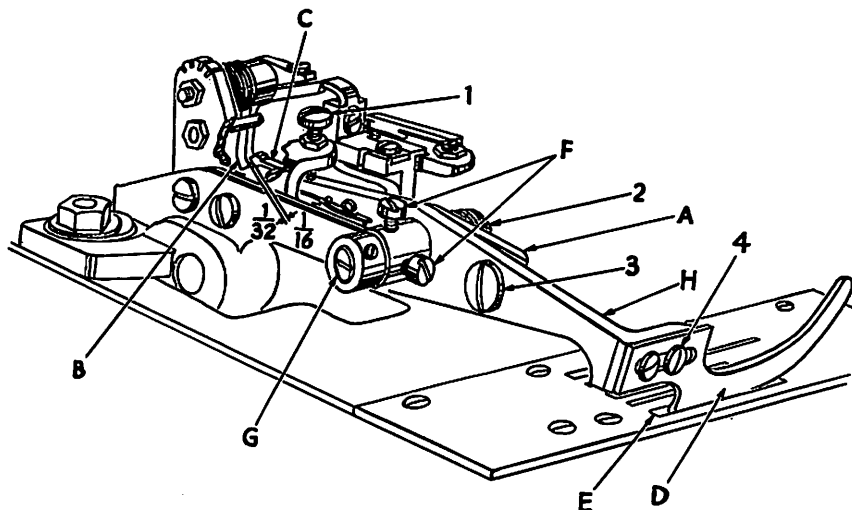

Fig. 7
The automatic tape cutting mechanism has four main adjustments. Adjustment No. 1 (Fig. 7) regulates the stop position of actuating lever (A). This stop is properly set when there is a small amount of play, from $1/32$ to $1/16$ inch, between points (B) and (C) when the mechanism is at rest.